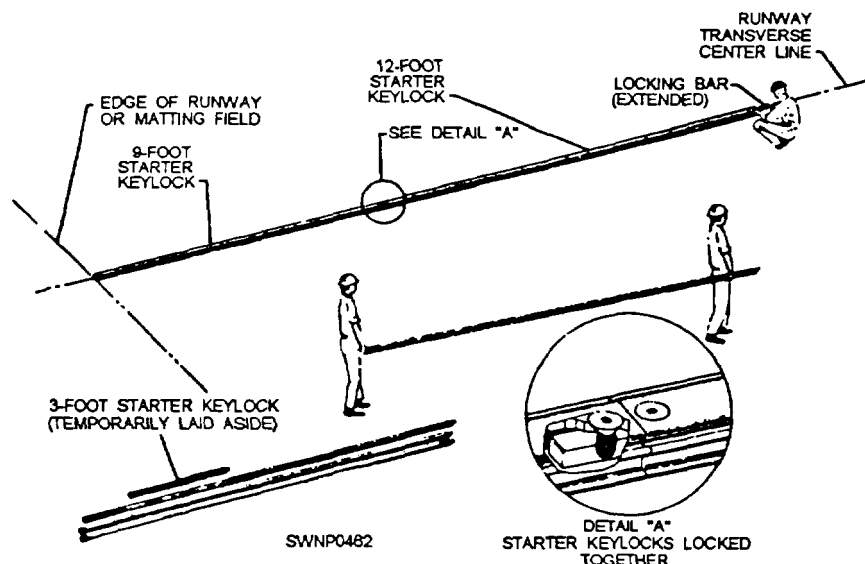

Figure 11-10 —Placing starter keylocks on a transverse center line.
The procedure for laying AM-2 mats and keylocks is shown in figures 11-10 through 11-18 and consists of the following steps:
1. Lay starter keylocks on the transverse center line of the runway. (See fig. 11-10.) A 9-foot starter keylock is laid at the outer edge of the runway. Remove the socket head screws from the keylock to allow for extending the locking bars into the next keylock section.
2. Place a 12-foot starter keylock next to, and aligned with, the 9-foot section. Move the 12-foot section against the 9-foot section, and adjust the locking bar so the socket head screws secure the locking bar in each section this procedure secures the 9-foot starter keylock and the 12-foot starter keylock, as shown in detail "A" of figure 11-10.